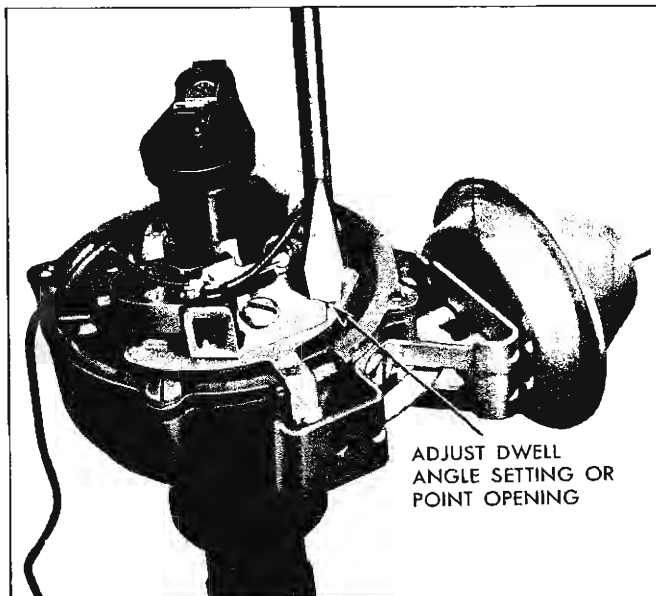

Fig. 4—In-Line Distributor
9. Examine distributor points and clean or replace if necessary (figs. 4, 5 and 6).